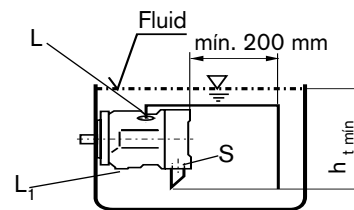

fig. 3
- a) If the min. fluid level is above the top of the pump: plug port "L", connect "L" and "S" with inlet pipe (recommended); see fig. 3.